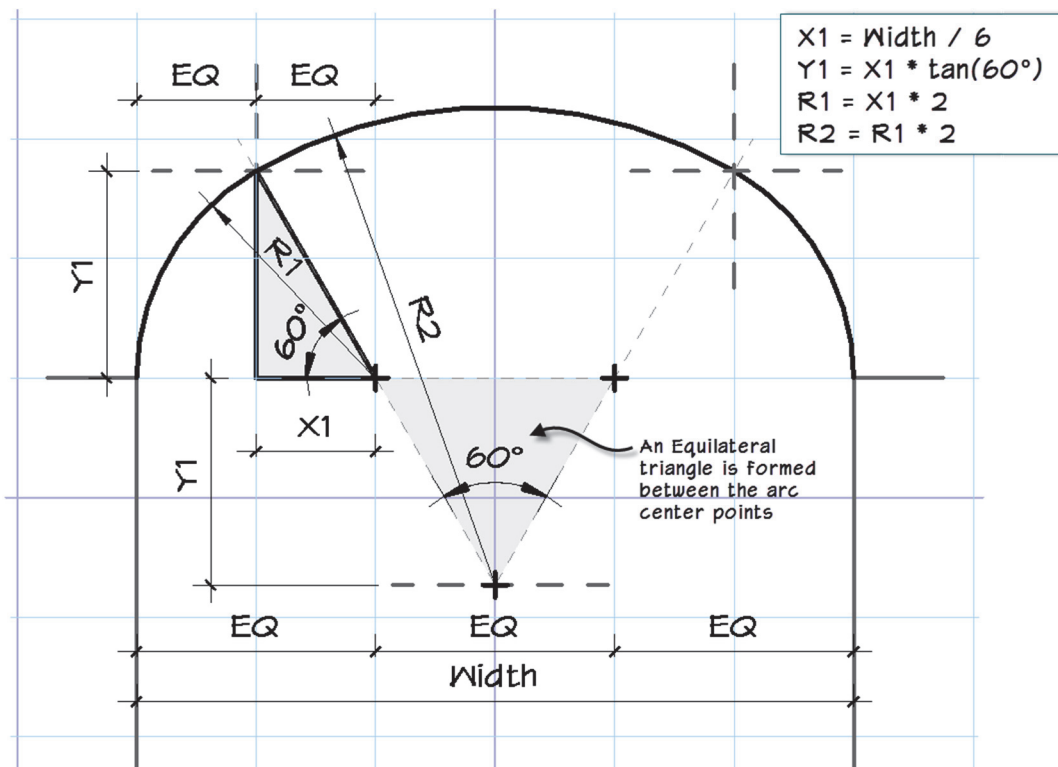

FIGURE 4.51
Let's start with the three center arch. A diagram of the shape is shown in Figure 4.51. The geometry is pretty simple. The two arcs on the left and right are 60° arcs with centers along the spring line. The middle arc is similar to our segmental arch above. We could use either rigs or formulas to construct this one. We'll go with a formula since the angles are fixed at 60° which makes the formula very simple.
5. Using Figure 4.51 above as a guide, on the Create tab, click the Line tool and then the Center-ends Arc icon. Draw the three arcs required.